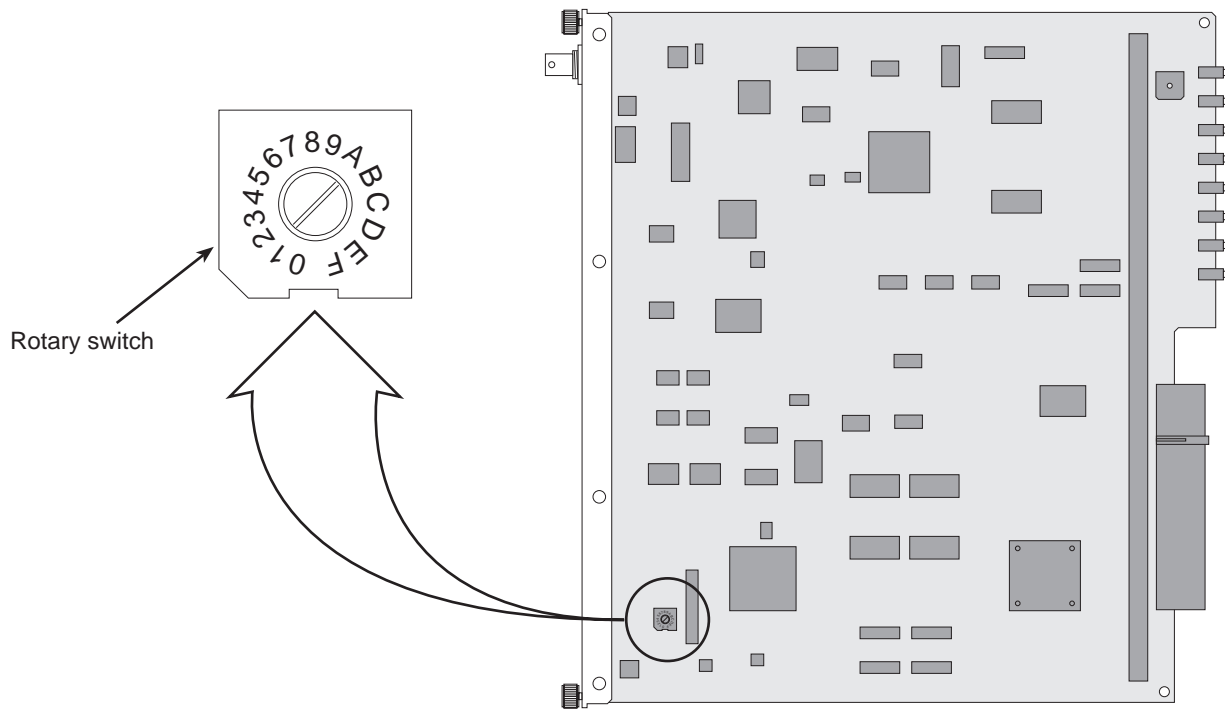

Figure 22. Controller card rotary switch location
5. Adjust the rotary switch (see figure 22 for switch location) to the desired address (the switch can be adjusted for an address of 0 to 7).